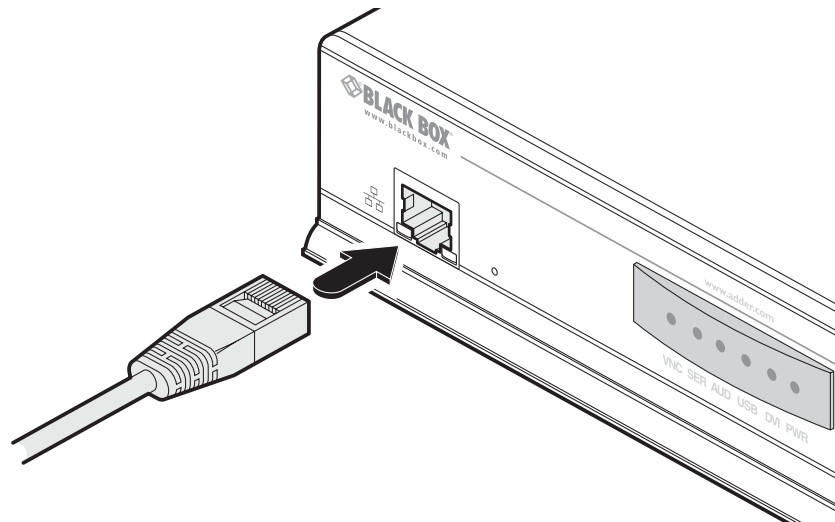

Figure 3-12. Connect a CAT 5, 5e, 6, or 7 link cable to the Management port socket
- 1 Connect a CAT 5, 5e, 6, or 7 link cable to the Management port socket located on the far left side of the ServSwitch Agility Dual/Dual-Head front panel. The port automatically configures itself, so no cross-over cable is required (but is supported if you do use one). See Figure 3-12.